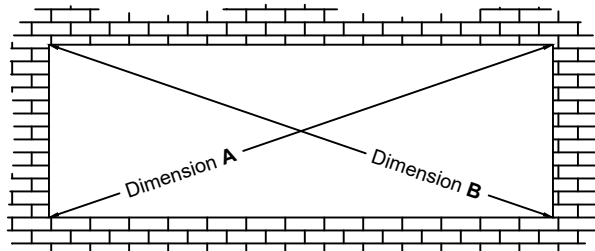

Fig. 17.1 Dimension "A" = "B"
- A. Make sure the opening is square and plumb. Measure each diagonal of the opening. SEE Fig. 17.1.